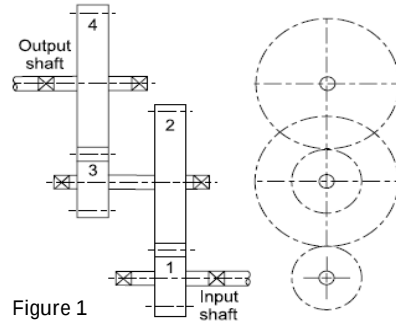

Figure 1
2. (a) A train of spur gears is shown in Figure 1. Gear 1 is the driving gear and transmits 5 kW power at 720 rpm. The number of teeth on gears 1, 2, 3 and 4 are 20, 50, 30 and 60 respectively. The module for all gears is 4 mm. The gears have a 20° full-depth involute profile. Calculate the tangential and radial components of the tooth force between